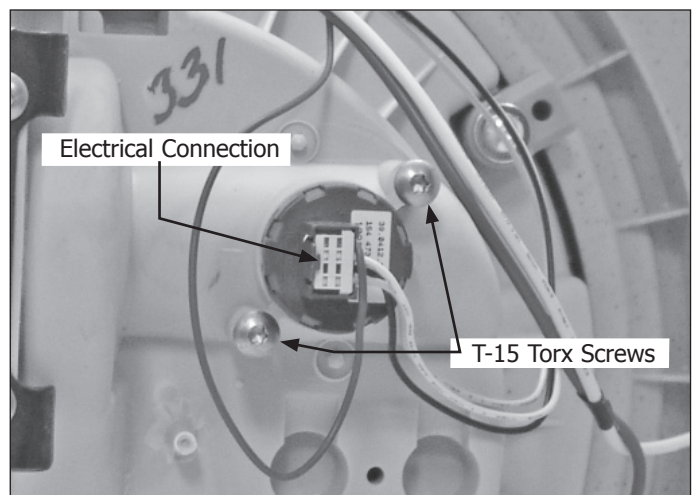

Figure 4-29.
6. Using a Torx T-15 bit, extract the two screws securing the turbidity sensor to the bottom of the sump. (See Figure 4-29)